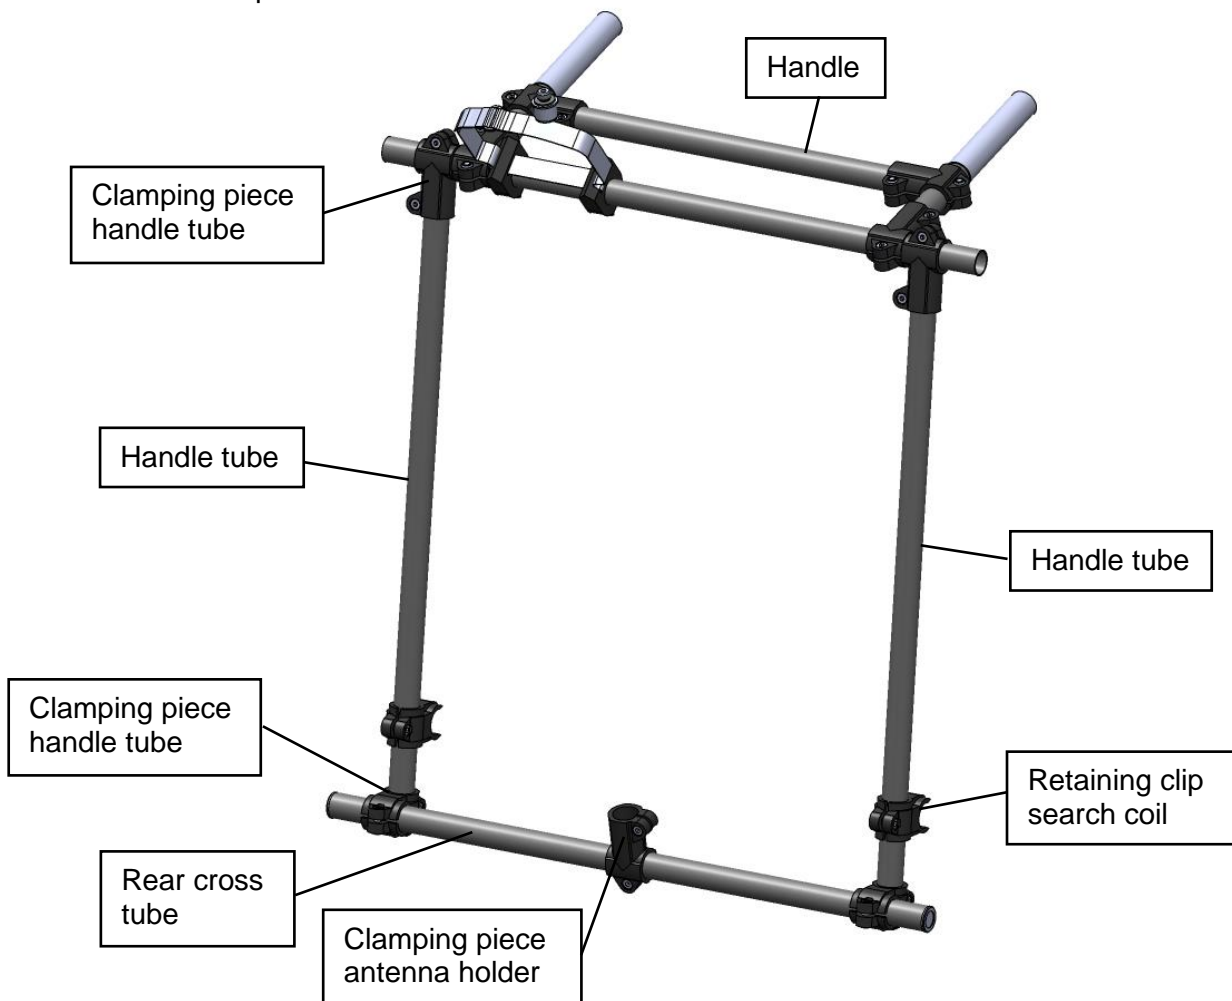

Fig. 5.1-1: Attach handle tubes
- As shown in fig. 5.1-1, push the clamping pieces from one of the two handle tubes onto the handle and onto the rear cross tube.
- Tighten the fixing screws on the 4 clamping pieces of the handle tubes (see also fig. 5.1-1). Tightening torque 6 Nm.,